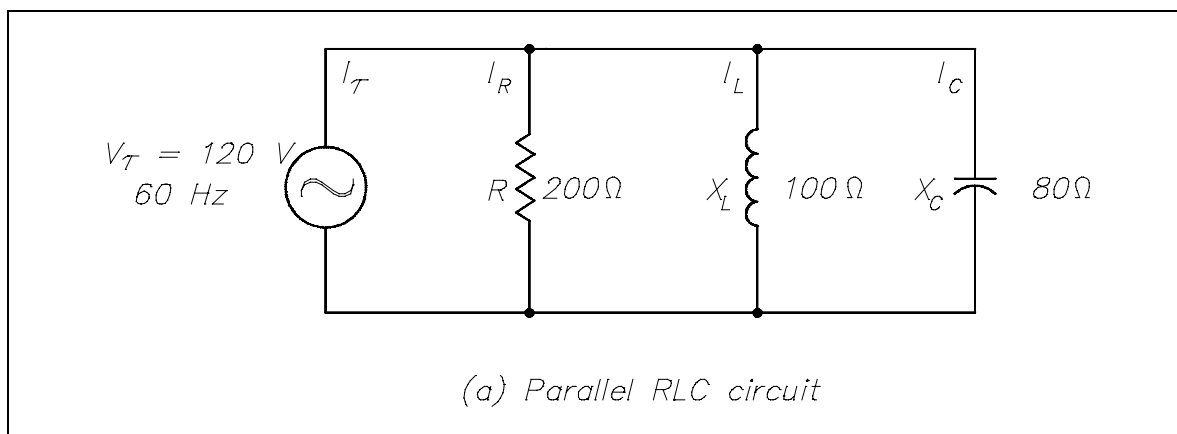

Figure 10 Simple Parallel R-C-L Circuit
Example: A 200 Ω resistor, a 100 Ω X_L , and an 80 Ω X_C are placed in parallel across a 120V AC source (Figure 10). Find: (1) the branch currents, (2) the total current, and (3) the impedance.
If a capacitor and an inductor, each with negligible resistance, are connected in parallel and the frequency is adjusted such that reactances are exactly equal, current will flow in the inductor and the capacitor, but the total current will be negligible. The parallel C-L circuit will present an almost infinite impedance. The capacitor will alternately charge and discharge through the inductor. Thus, in a parallel R-C-L, as in Figure 10, the net current flow through the circuit is at minimum because of the high impedance presented by X_L and X_C in parallel.